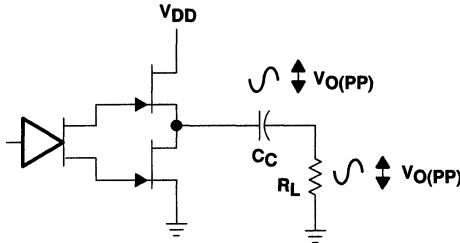

Figure 35. Single-Ended Configuration
In a typical computer sound channel operating at 5 V, bridging raises the power into an 8-Ω speaker from a singled-ended (SE) limit of 250 mW to 1 W. In sound power that is a 6-dB improvement, which is loudness that can be heard. In addition to increased power, frequency response is a concern; consider the single-supply SE configuration shown in Figure 35. A coupling capacitor is required to block the dc offset voltage from reaching the load. These capacitors can be quite large (approximately 40 μF to 1000 μF) so they tend to be expensive, occupy valuable PCB area, and have the additional drawback of limiting low-frequency performance of the system. This frequency limiting effect is due to the high pass filter network created with the speaker impedance and the coupling capacitance and is calculated with equation 2.